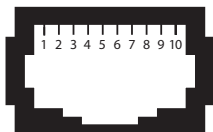

Fig. 3.6 Remote Control RC-300 - Pinout of Modular Jack RJ-50
- Green LED (6) marked POWER. This LED will be lighted when the inverter is in ON condition. When the inverter is in OFF condition, this LED will not be lighted. This LED shows that DC input is available to the inverter and that the input section of the inverter is operating normally.
- Red LED (4) marked OVER LOAD. When lighted, it indicates that the AC output of the inverter has been shut down due to over load.
- Red LED (5) marked OVER TEMP. When lighted, it indicates that the AC output of the inverter has been shut down due to over temperature.
The pinout of the RJ-50 Modular Jack (7) at the back of the RC-300 is given at Fig. 3.6 below: